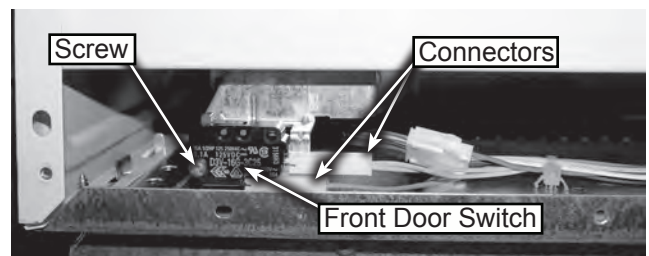

Figure 4
8. The front door switch is located behind the side panel on the right side of the microwave, see figure 4.
9. Remove the connectors and one screw to replace, see figure 4.
8. The rear door switch is located behind the side panel on the left side of the microwave, see figure 4.